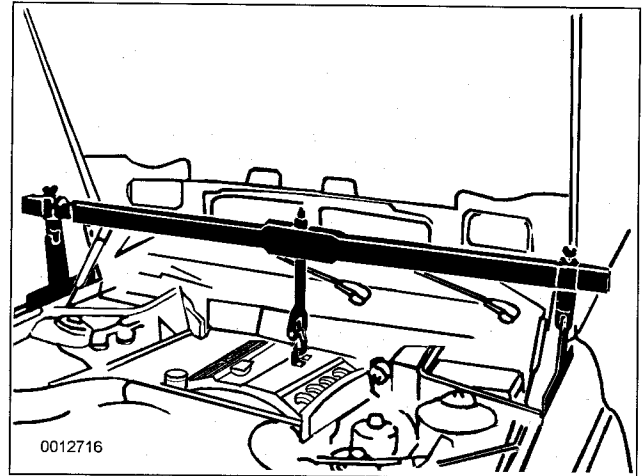

Fig. 11. Engine lifting equipment shown installed across engine.
9. Install engine lifting equipment at front engine lifting point and raise engine approximately 5 mm (1/4 inch) until engine weight is supported. See Fig. 11.